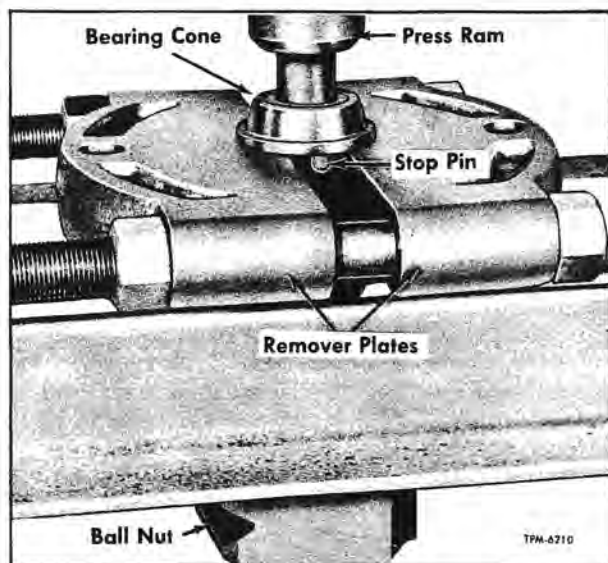
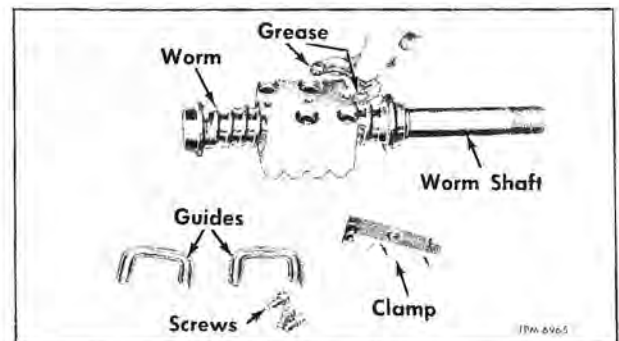

Figure 10—Removing Lower Worm Thrust Bearing Cone
Figure 11—Ball Guide Removal and Installation
9. Try action of ball nut (5) on shaft worm (31). Ball nut must rotate smoothly with no evidence of binding or roughness. Tape shaft worm at both ends of ball nut to keep nut from running up or down; then lay the assembly flat on work bench until ready to disassemble.
10. Remove lower thrust bearing cone (30) from worm shaft (31), using bearing remover plates (J-8176) (fig. 10).
11. Remove lower ball nut pin stop (27).
12. Remove screws attaching ball guide clamp to ball nut (5). Remove clamp. Pull ball guides out of ball nut as shown in figure 11. Remove balls (6) from guides by separating guides.
14. Remove upper thrust bearing cone (32) from worm shaft (31), using bearing remover plates (J-8176). Refer to figure 10. Remove upper ball nut stop pin (27) from worm shaft.
15. Remove Pitman shaft oil seal (15) from gear housing (11) and discard.
16. Remove worm shaft oil seal (24) from top cover (25) and discard. New oil seals should be used when reassembling the steering gear.
17. Removal of lower worm thrust bearing cup (28) from housing, upper thrust bearing cup (33) from top cover, needle bearing (4) from side cover, and needle bearings (16) from housing should be deferred until inspection of parts indicate necessity for further disassembly.
5. Lay one-half of a ball guide on bench with groove up. Place the remaining balls for the first circuit into groove of the guide (fig. 16). Close this half of ball guide with other half. Hold the two halves together and plug each open end with heavy grease as shown in figure 11, to prevent balls from dropping out.